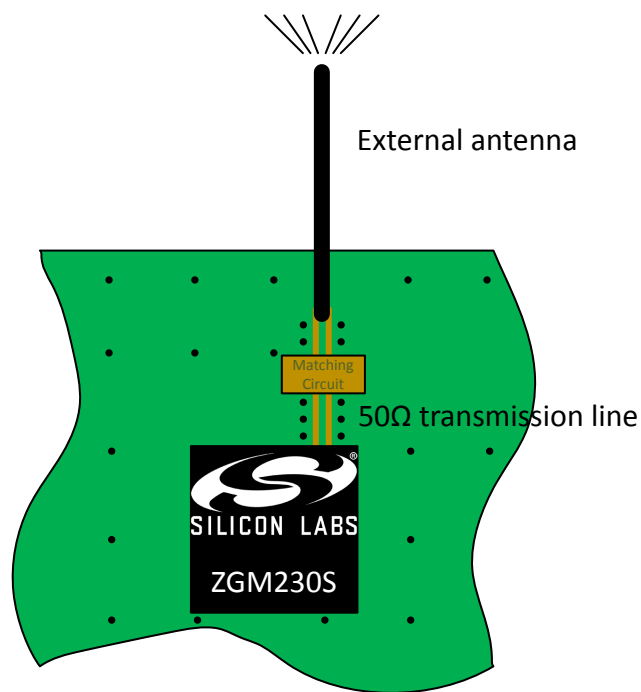

Figure 7.1. ZGM230S Implementation with External Antenna
- For an external antenna type, see Figure 7.1 ZGM230S Implementation with External Antenna on page 38, the location of the ZGM230S and its antenna is fairly flexible, but as described in AN853, the performance of the antenna will depend on the ground plane of the entire application PCB.